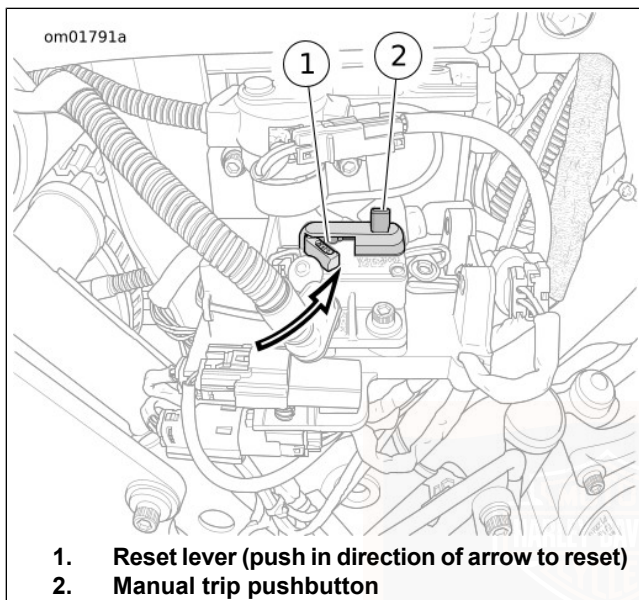

Figure 97. Reverse Motor Circuit Breaker
See Figure 97. The circuit breaker is located in the electrical caddy behind the right side cover. This manually resettable circuit breaker has a red trip pushbutton (2) and a reset lever (1). To manually trip the circuit breaker, push down on the trip push button (which causes the reset lever to extend out).